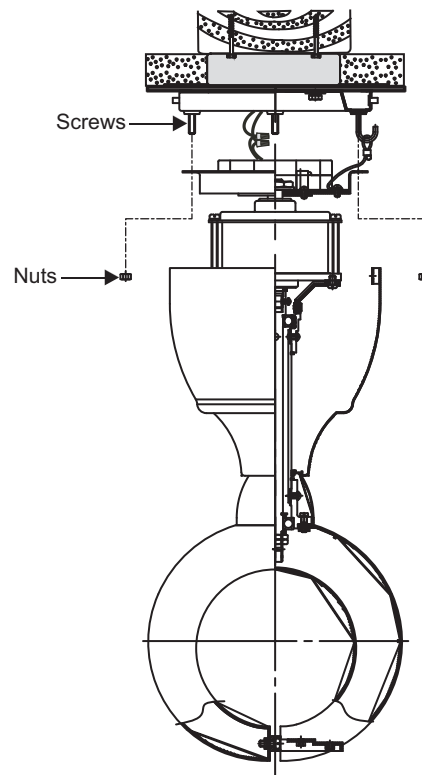

Fig. 8
Step 1. Move fan into position over the four mounting studs and secure with the provided nuts. (Fig. 8)